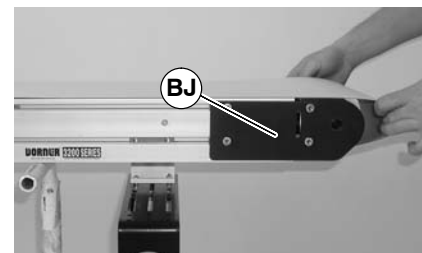

Figure 36
5. Remove belt (BJ of Figure 36) from conveyor, one stand at a time. Start on one end of conveyor and work down to opposite end.